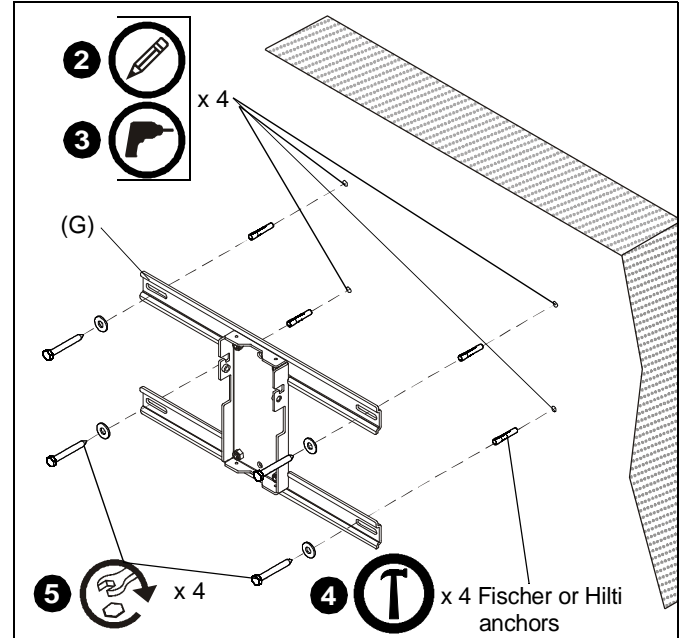

Figure 2
2. Using dual stud brackets (G) with attached wall plate (B) as a template, mark four holes in brackets as mounting holes. (See Figure 2)
3. Drill four 3/8" holes at marked locations in wall. (See Figure 2)
4. Install either four Fischer UX 10 x 60 anchors [Part number 077871] (not included) or four Hilti HUD-L 10x70 anchors (not included) into drilled holes. (See Figure 2)
5. Install four Grade 2 or better 5/16 x 2-1/2" hex head lag screws (not included) through four Grade 2 or better 5/16" washers (not included), holes in stud brackets (G) and into four Fischer or Hilti anchors (not included). (See Figure 2)